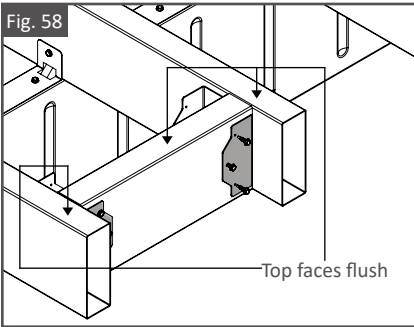

Fig. 59
13. Repeat steps 2: 11 & 12 for mounting second cut Joist. Reference Fig. 59 for mounted second cut Joist.